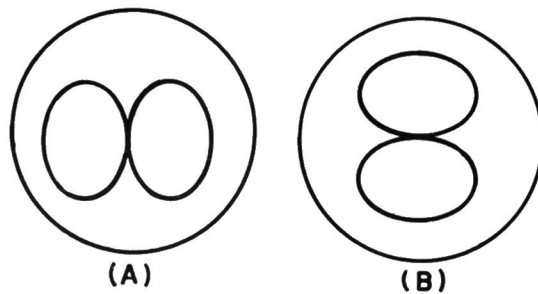
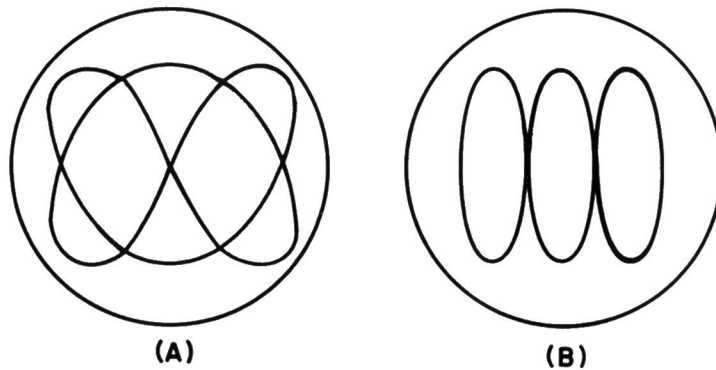

Fig. 7—Lissajous figure for a frequency ratio of 2 to 1. In (A) the higher frequency is applied to the vertical plates and in (B) to the horizontal plates.
Fig. 8—Lissajous figures for the frequency ratios of 3 to 2 (A) and 3 to 1 (B).
are produced. For a ratio of 2 to 1 the pattern is as shown in Fig. 7. The patterns for the ratios of 3 to 2 and 3 to 1 are shown in Figs. 8 (A) and (B). The formula for determining the frequency ratio from inspection of the pattern is based upon the number of times the curve of the pattern touches a hypothetical horizontal line at the bottom of the pattern and the number of times it touches another hypothetical vertical line at the one side of the pattern. The formula is shown below: